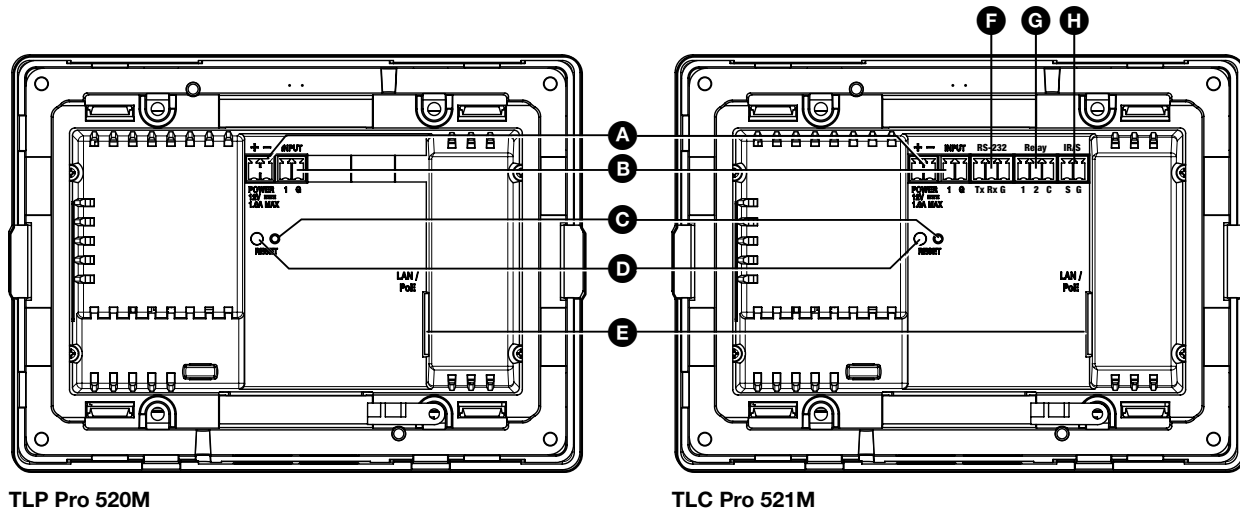

Figure 4. TLP Pro 520M and TLC Pro 521M rear panels
7. Plug the cables into the rear panel connectors (see Rear Panel Features and figure 4 on page 4).
- E Network and Power over Ethernet (PoE) connector** (see **figure 4**) — is on the right side of the recessed area. Connect the touchpanel to the LAN using a twisted pair cable, terminated with an RJ-45 connector. The connector can also be used with a PoE power injector (not provided).
- F RS-232 connector** (TLC Pro 521M only, see **figure 4**) — three-pole 3.5 mm captive screw connector supports software flow control (Pin 1 = Tx, Pin 2 = Rx, Pin 3 = G).
- G Relay connector** (TLC Pro 521M only, see **figure 4**) — three-pole 3.5 mm captive screw connector for normally open (NO) contact closure (Pin 1 = 1, Pin 2 = 2, Pin 3 = C).
- H IR/S connector** (TLC Pro 521M only, see **figure 4**) — two-pole 3.5 mm captive screw connector can be configured to operate as an IR or unidirectional serial port (Pin 1 = S, Pin 2 = G).
- Use factory firmware:** Press and hold the **Reset** button (figure 4, **D**) while applying power to the unit. Use this mode to replace firmware in the event of firmware failure.
- Reset All IP Settings:** Press and hold the **Reset** button for 6 seconds. After the Reset LED (figure 4, **C**) flashes twice, release and momentarily press the **Reset** button. Use this mode to reset all network settings without affecting user-loaded files.